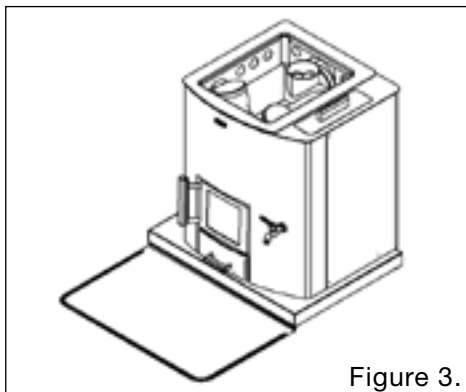

Figure 3.
**Figure 3.** If the sauna heater is installed on a floor made of combustible materials, an installation base must be used. A piece of sheet metal must be installed in front of the installation base, which extends at least 100 mm over the sides of the heater hatch and at least 400 mm in front of the sauna heater. The sheet metal edges facing the sauna heater must be turned up, so that coal cannot get under the installation base.